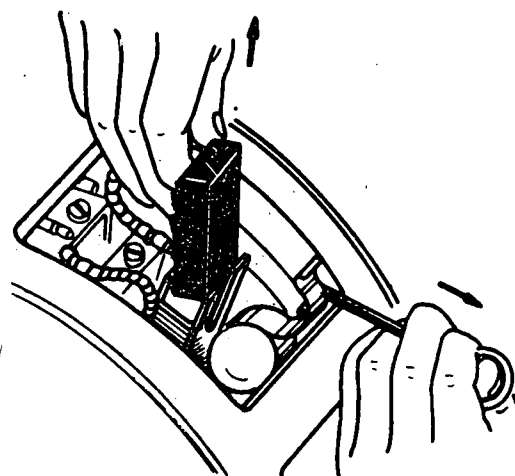

Fig.1
- b) Remove the brushes and cables from the brush holders (fig. 1).